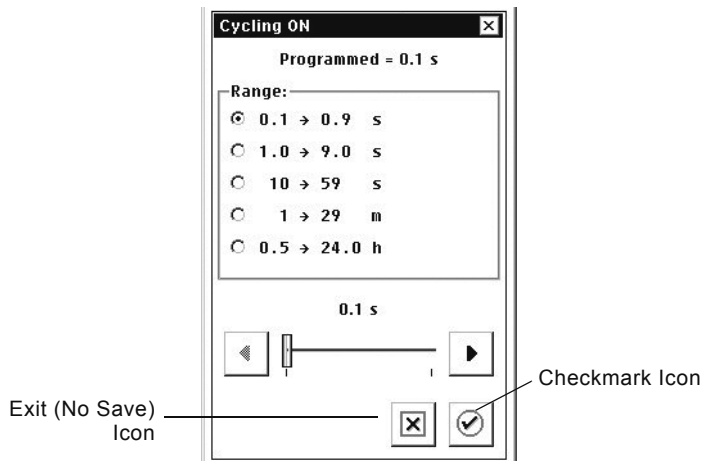

Figure 28. Select target cycling time range.
2. Select the range in which the target cycling time appears (Figure 28).
6. Select the range in which the target cycling time appears (Figure 28).